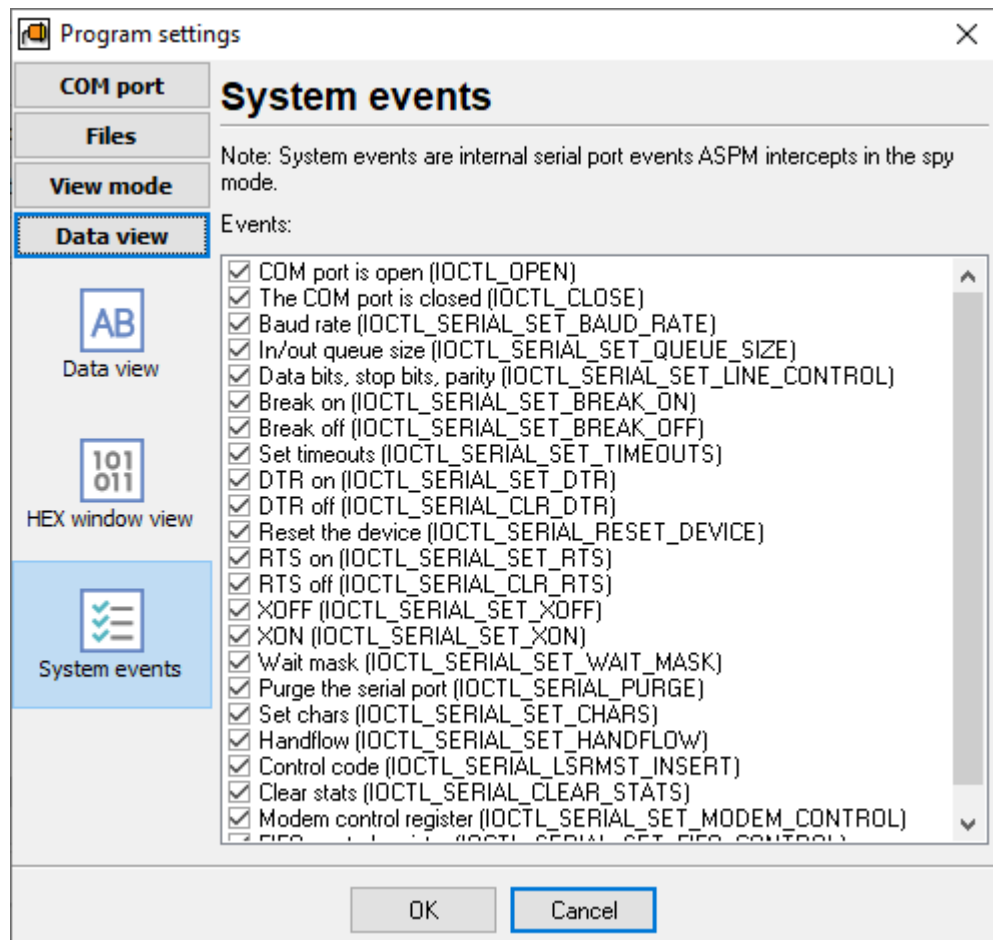

Fig.1 System events.
- you can monitor internal port events (system events), such as port opening, port closing, set handshake etc. You can select a list of events, that you'll monitor (fig. 1) and specify color for it.